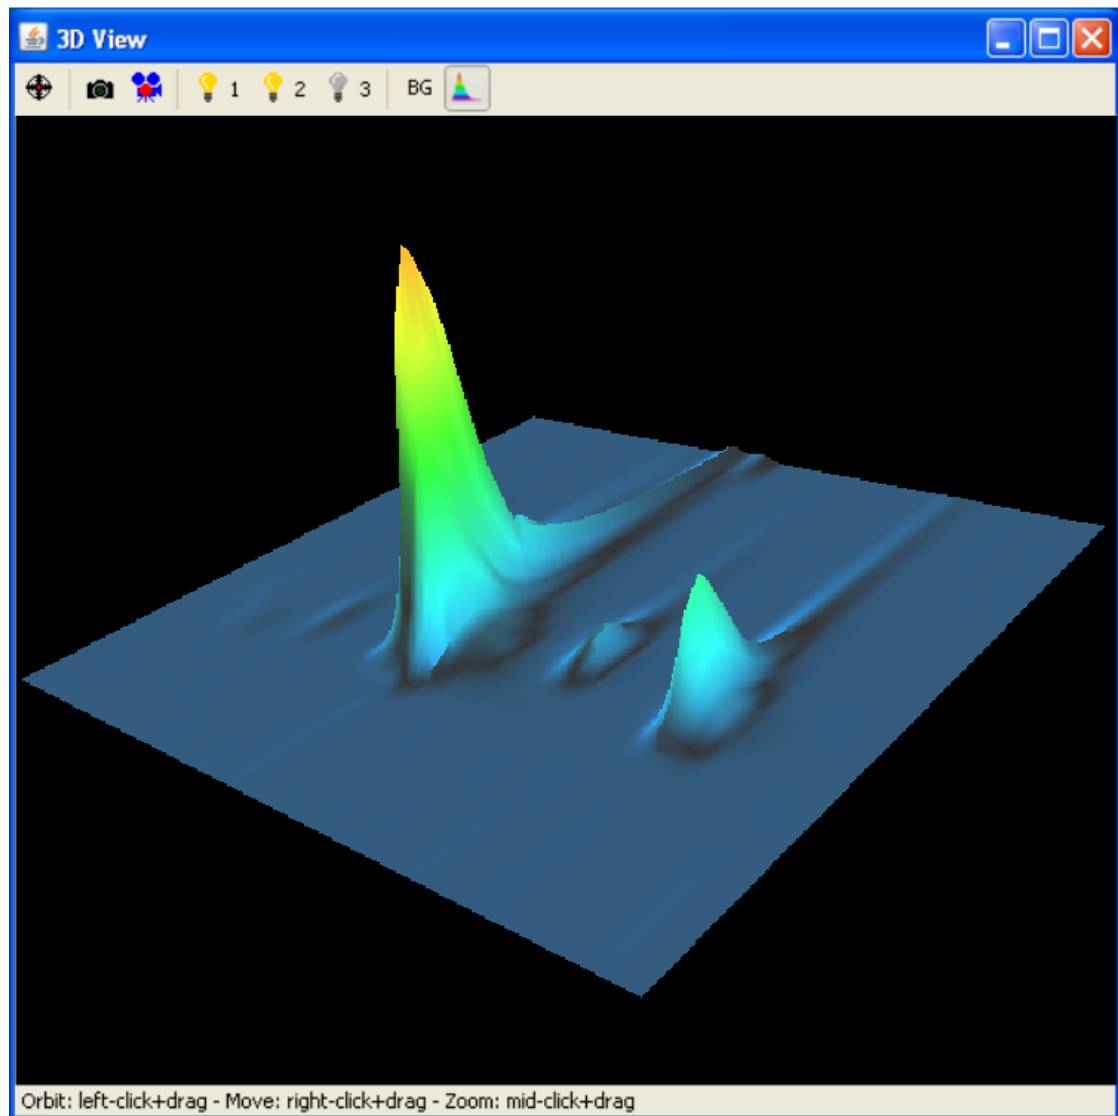

Figure 11.2: 3D View Window - Surface colorization
- Icon  *switches* On or Off the *colorization* of the surface depending on the *elevation*, that is the *intensity*. See Figure 11.2.